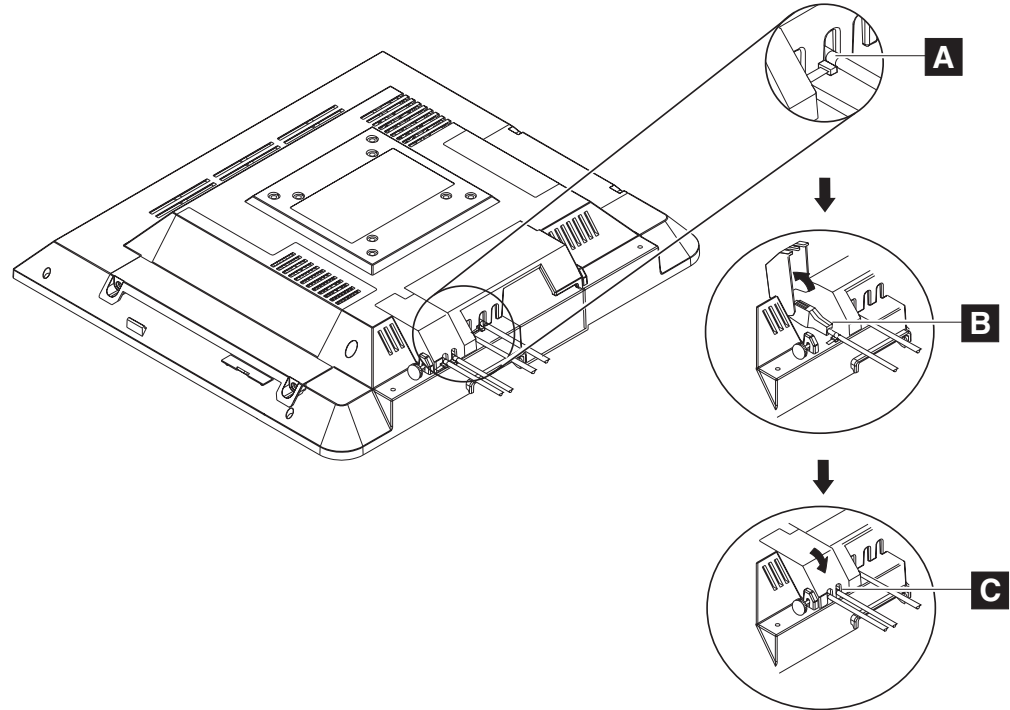

Figure 4. Retaining the cables using cable ties
The EIA-232 cable is retained to the system unit with screws. The Ethernet cable is retained by a snap on the connector. When closed, the cable cover retains the power cable. See Figure 4.
2. Install the cable ties to the cable just outside the cable cover as shown in **A** in Figure 4.
3. Open the cable covers (**B** in Figure 4).
5. Close and secure the cable covers with the cable ties inside of the covers (**C** in Figure 4).